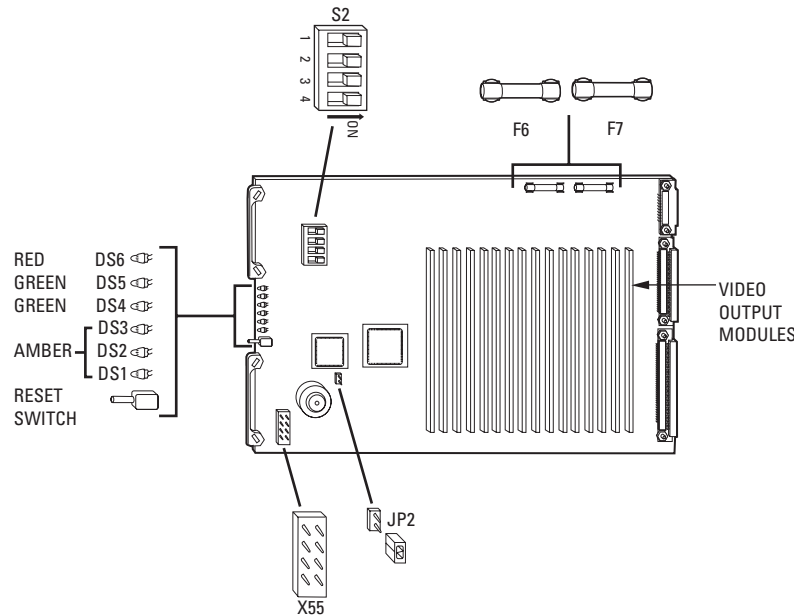

Figure 49. CM9760-VMC Video Output Card (CM9760-VMC16)
The CM9760-VMC video output card (refer to Figure 49) routes up to 16 video signals from the video bus, adds idents (if applicable), and routes the signals to video outputs (for example, monitors). The CM9760-VMC card contains up to 16 CM9760-VMM video output modules—each of which provides one video output with titling—and is available in the following models:
- CM9760-VMC16 contains 16 CM9760-VMM modules, providing support for 16 video outputs (refer to Figure 49).
As illustrated in Figure 49, the CM9760-VMC card includes the following: